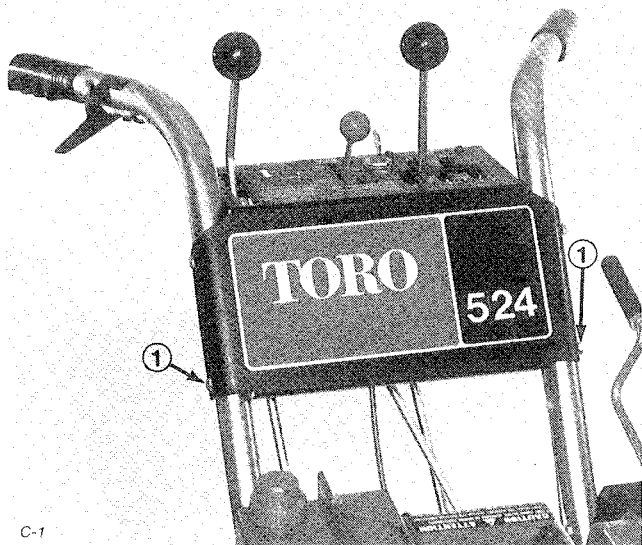

Figure 3
1. Remove lower capscrews and nuts securing control panel to handles (Fig. 3).